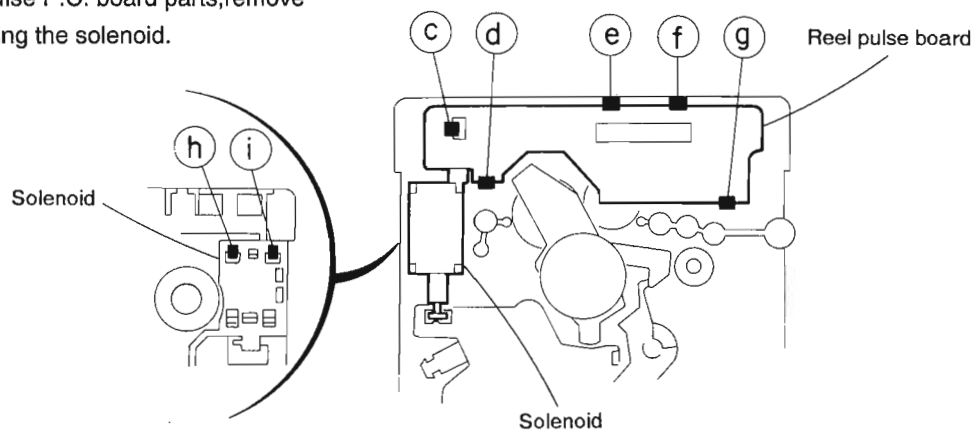

Fig.3-34
■ **Removing the Reel Pulse P.C. Board and Solenoid (See Fig. 3-34)**
1. Remove the five pawls (③,④,⑤,⑥ and ⑦) retaining the reel pulse P.C. board
2. From the surface of the reel pulse P.C. board parts,remove the two pawls ⑧ and ⑨ retaining the solenoid.